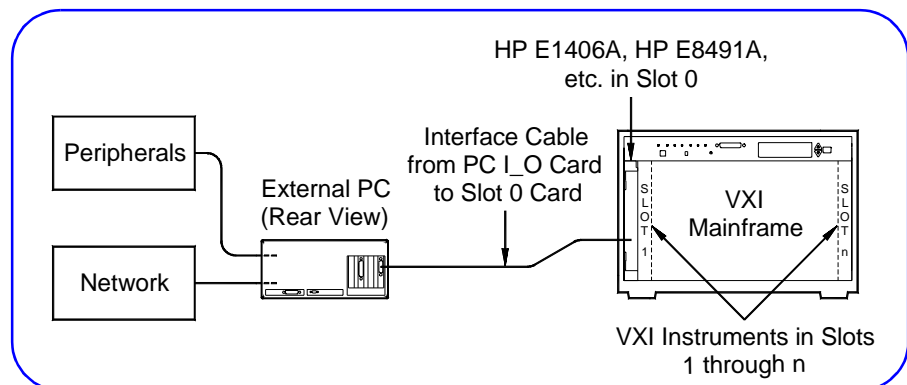

Figure 19. Connecting the Interface Cable
- 1 Connect one end of the interface cable to the PC I/O card you installed (in Step 2). Connect the other end of the cable to the Slot 0 Controller card. Figure 19 shows the hardware connected at the end of this step (not including terminals or Rack & Stack equipment).